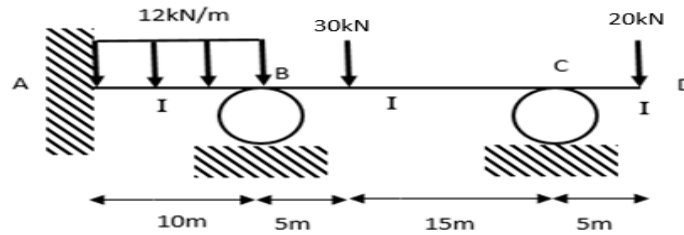

Figure B3(c)/Rajah B3(c)
- (c) A statically indeterminate beam is subjected to uniformly distributed load and point load as shown in Figure B3(c). The value of Fixed End Moments and Distribution Factor is given in Table B3(c).